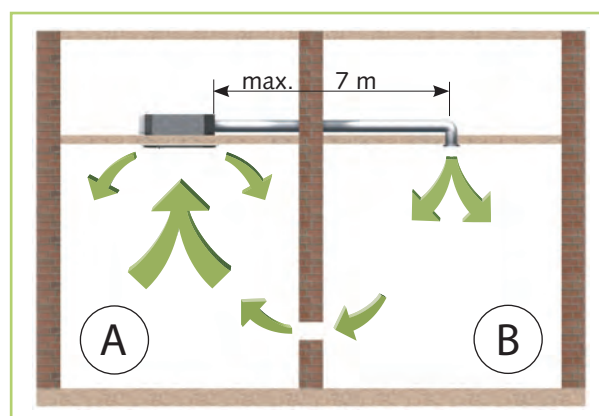

Fig. 34: Adjacent room connection
- A maximum pipe length of 7 m may not be exceeded (Fig. 34).